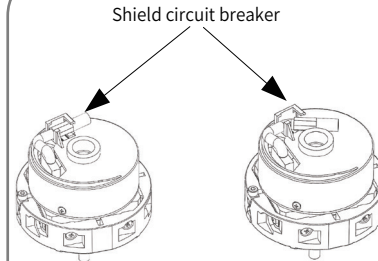

Figure 4-1 Shield cable interface diagram
- 2) Before removing the shielded cable from the traction machine, remove the housing cover, and isolate the grounded shielding ring and the encoder housing, as shown in Figure 4-1.